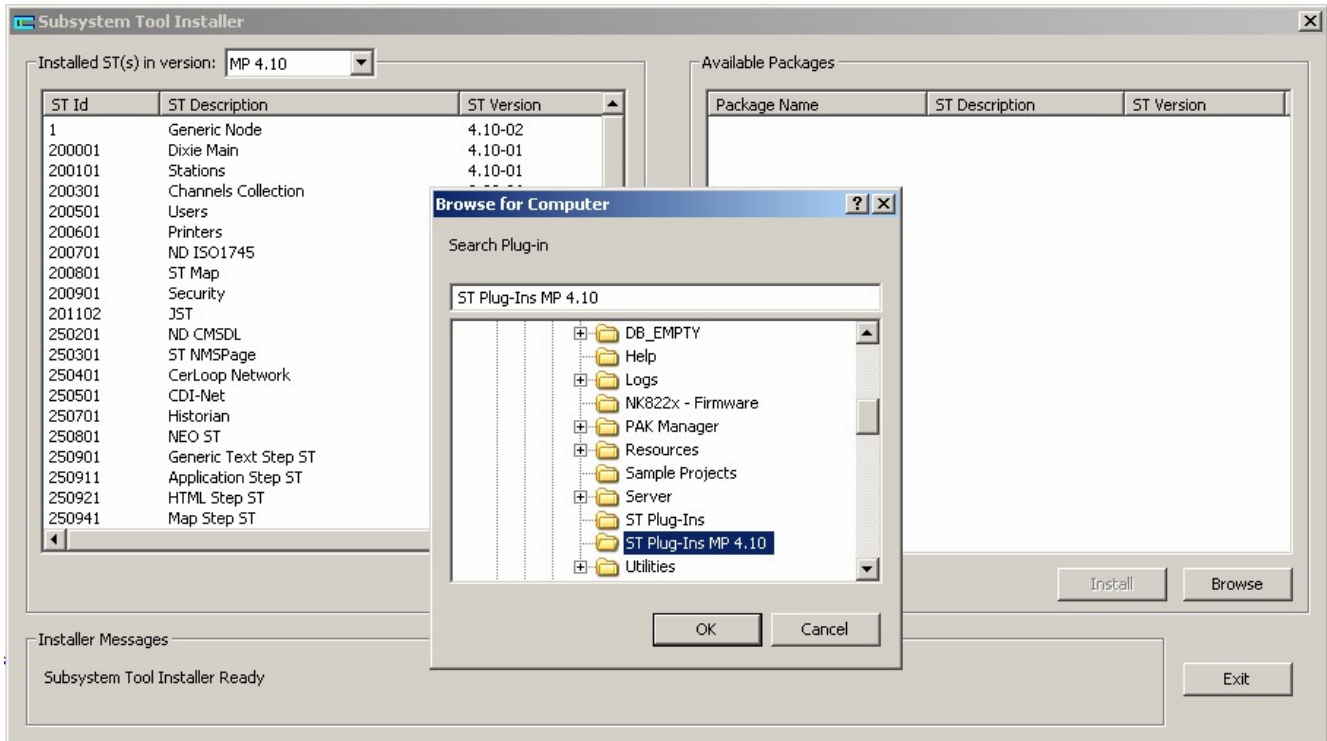

Fig 1 Installing the Composer Plug-ins
2. In the right pane, select “Browser” and locate the Plug-in folder (see Fig 1).